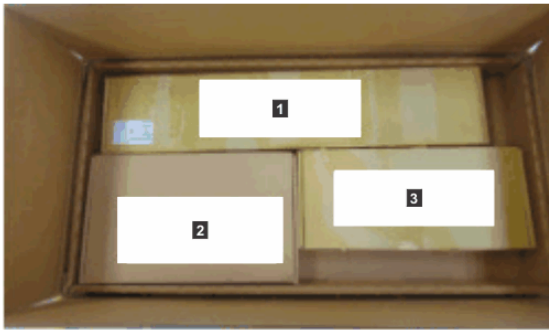

Figure 49. Tray containing expansion enclosure parts
The 5U expansion enclosure and most parts are shipped together in one large box. A tray on the top of the enclosure contains the front fascia (1U and 4U pieces), the cable management arm (CMA), and the slide rail kit; you must install these parts. Figure 49 on page 52 shows how the enclosure is packaged for shipment.
6. Remove the support rail kit from the box in which it was shipped (**1**, as shown in Figure 49 on page 52).
17. Remove the cable management arm assembly from its packaging (**2** in Figure 49 on page 52).